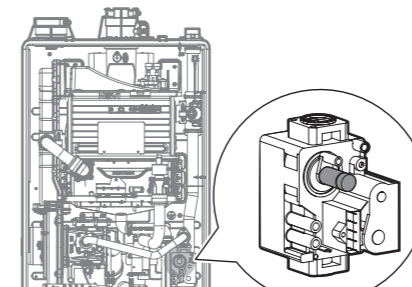

Figure 10. Set Screw Location
- c. Activate multiple zones and set the boiler to operate at 1-stage MIN mode. Measure the offset value at low fire and compare it to the values in Table 3. If the offset value is out of range, the gas valve set screw will need to be adjusted. If adjustment is necessary, locate the set screw as shown in Figure 10. Using a 5/32 in or 4mm Allen wrench, turn the set screw no more than 1/4 turn clockwise to raise or counterclockwise to lower the offset value.